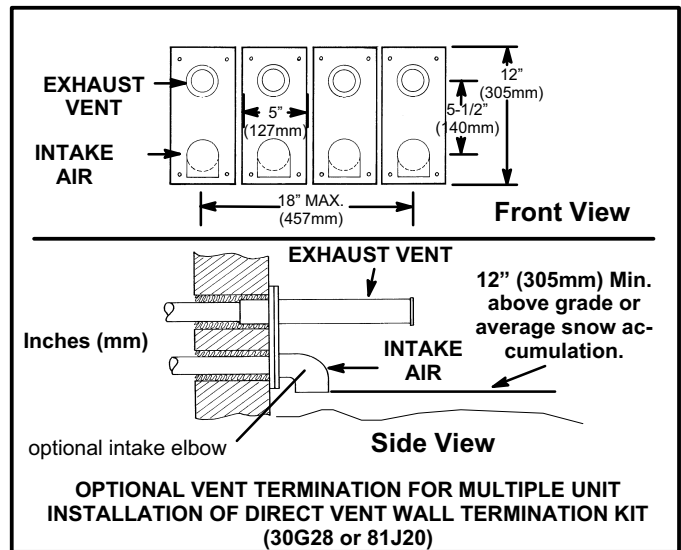

FIGURE 40
8. A multiple furnace installation may use a group of up to four terminations assembled together horizontally, as shown in figure 40.